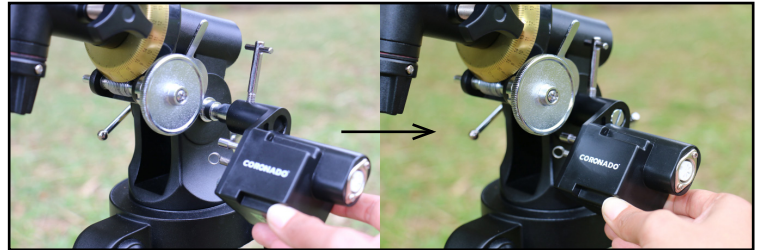

Figure 8.
10. Slide the Motor Assembly onto the Motor Mounting Shaft (*Figure 8.*) The Coronado label should be facing the same direction as in the *Figure 8* picture.